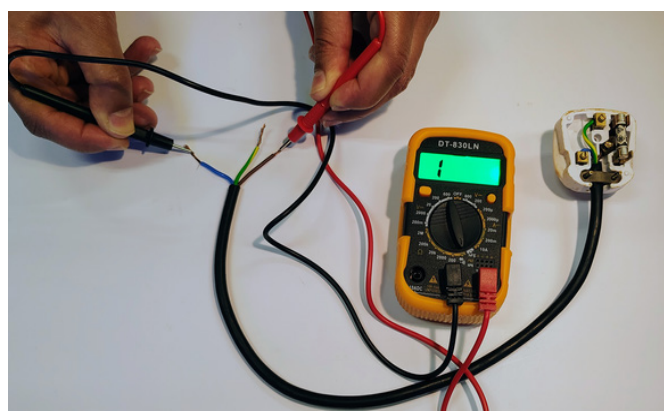

Figure 7
2. Touch the other probe to the neutral wire as shown in **Figure 7**.